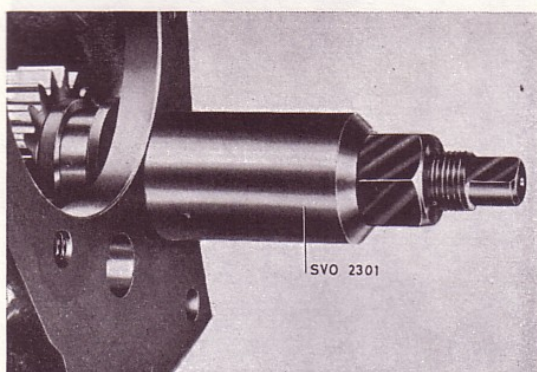

Fig. 19. Removing reverse gear
10. Take out the idler gear. Pull out the shaft (early prod.) for the reverse gear with puller SVO 2301, Fig. 19. Take out the reverse gear and other parts.